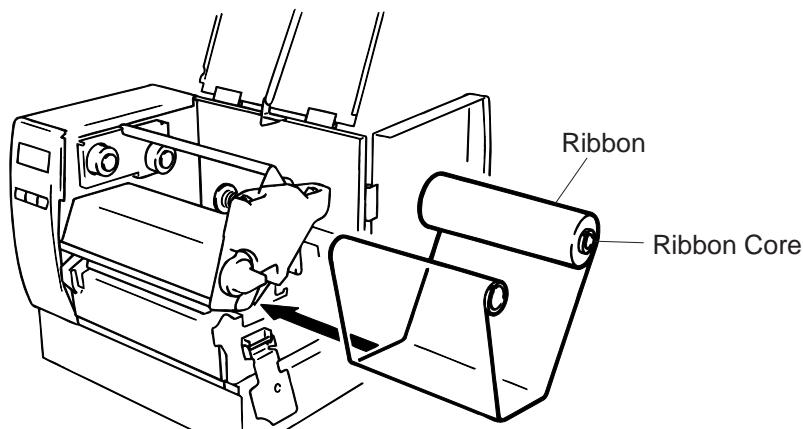

Fig. 7-2
3. As Fig. 7-2 shows, unroll and loosen the ribbon a little.